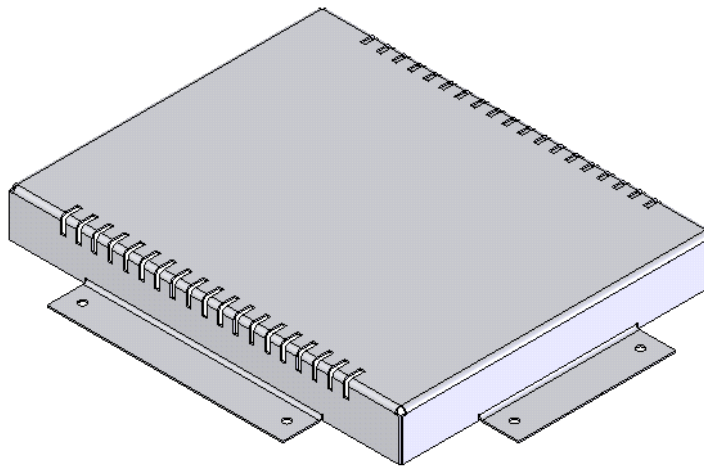

Figure 16-169 Unflattened sheet metal component
- Unflatten the sheet metal component, refer to Figure 16-169.
The unflattened sheet metal component is displayed in Figure 16-169.